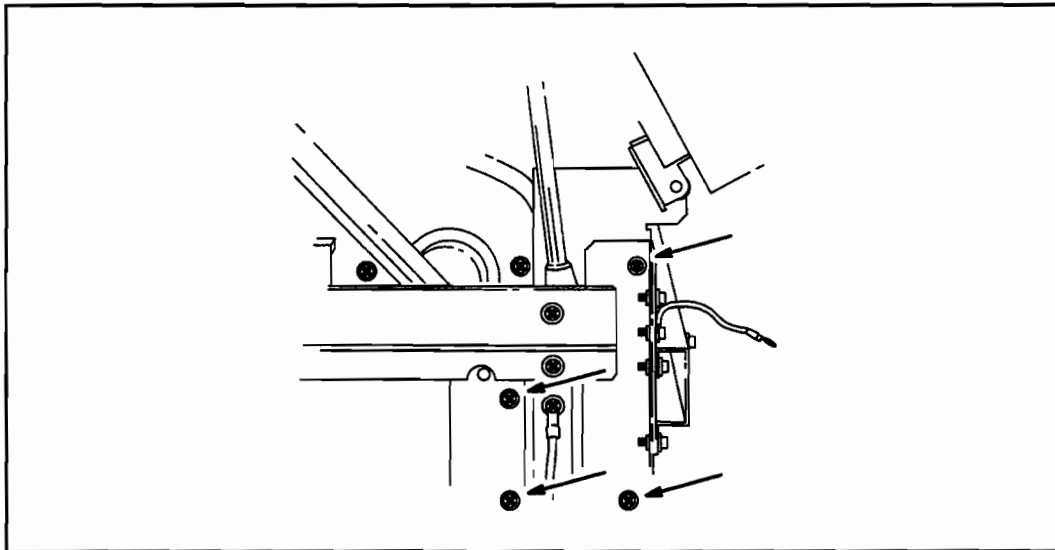

Figure 6-8. Top Cover Bracket Removal
7. Using a #2 Phillips screwdriver, loosen but do not remove the four screws that mount the right-side bracket and the left side bracket. See Figure 6-8.